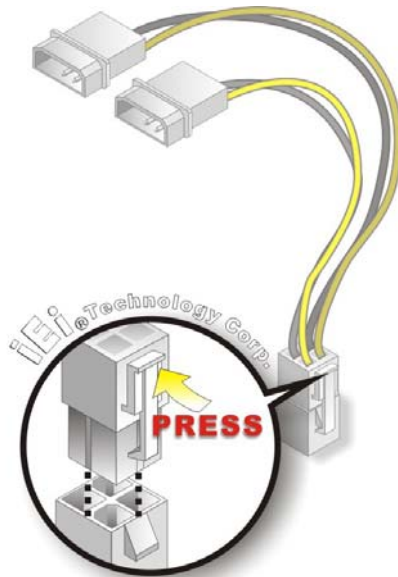

Figure 4-9: Power Cable to Motherboard Connection
Step 2: **Connect the Power Cable to the Motherboard.** Connect the 4-pin (2x2) Molex type power cable connector to the AT power connector on the motherboard. See **Figure 4-9.**